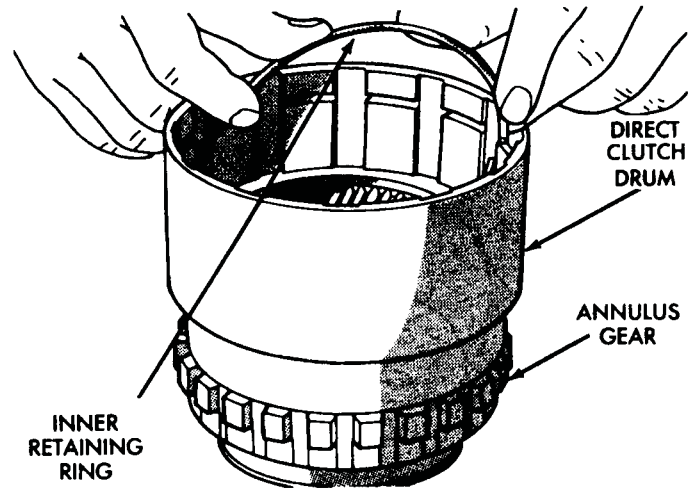

Fig. 47 Clutch Drum Inner Retaining Ring Installation
- (8) Slide clutch drum forward and install inner retaining ring (Fig. 47).